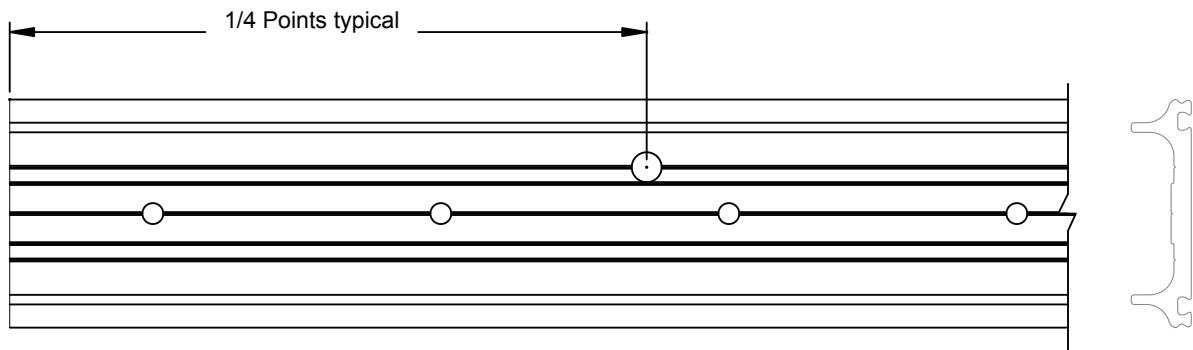

FIGURE 2
1.2 Weep holes are to be located at 1/4 points of horizontal pressure plates unless shop drawings designate different locations. Weep holes are 5/16" diameter (See notes below for drill bit recommendations.) See FIGURE 2